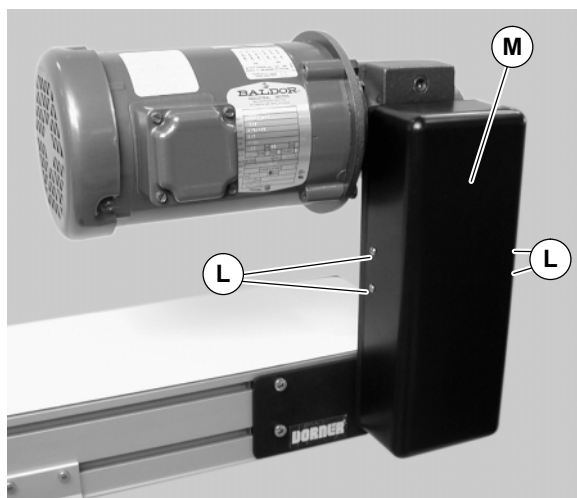

Figure 14
- a. Remove four (4) screws (L of Figure 14) and cover (M).